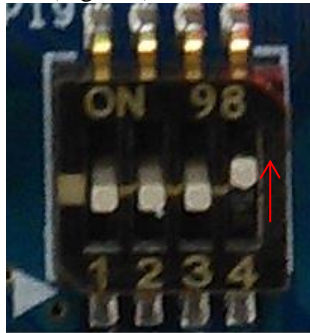

Fig.2-6 DIP-SW settings (Responder)
- (7) Responder side: Set DIP-SW4 from OFF to ON (Fig. 2-6).